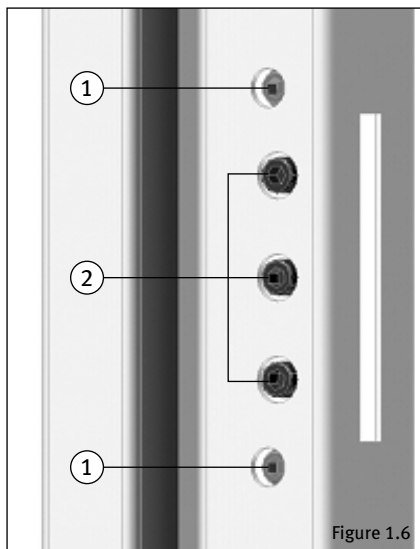

Figure 1.6
You can use the 3 screws (2) to adjust the air gap between the door leaf and frame in the frame facing. Use the screws (2) also to fasten the door leaf on the frame (Figure 1.6).